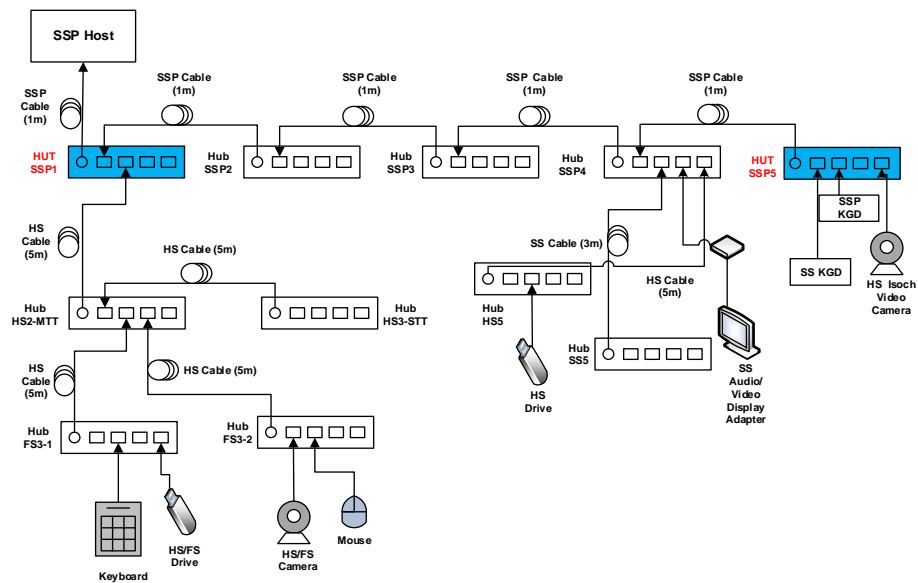

Figure 11-5: Modified Hub SSP Interoperability Interim Tree (with SSP device and SSP Hubs Interop Tree)
- Connect HUT's as shown in Figure 11-5